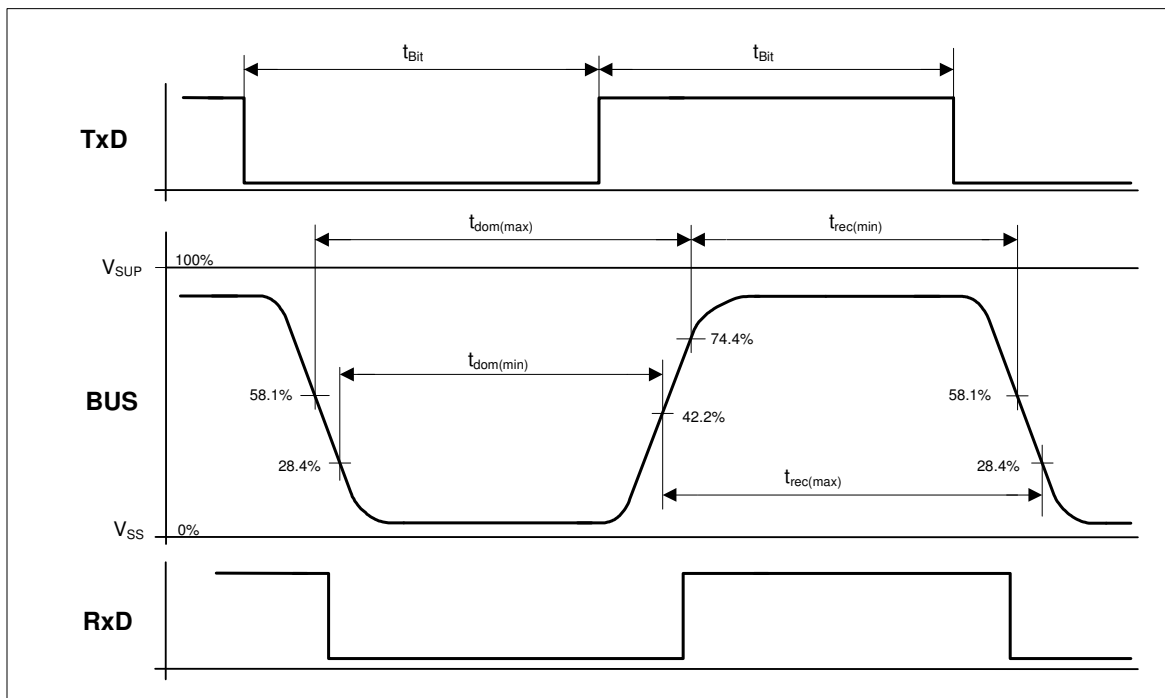

Figure 8 - Duty cycle calculation in accordance to LIN 2.0
- [9] See Figure 8 - Duty cycle calculation in accordance to LIN 2.0
With the timing parameters shown in Figure 8 two duty cycles , based on $t_{rec(min)}$ and $t_{rec(max)}$ can be calculated as follows :